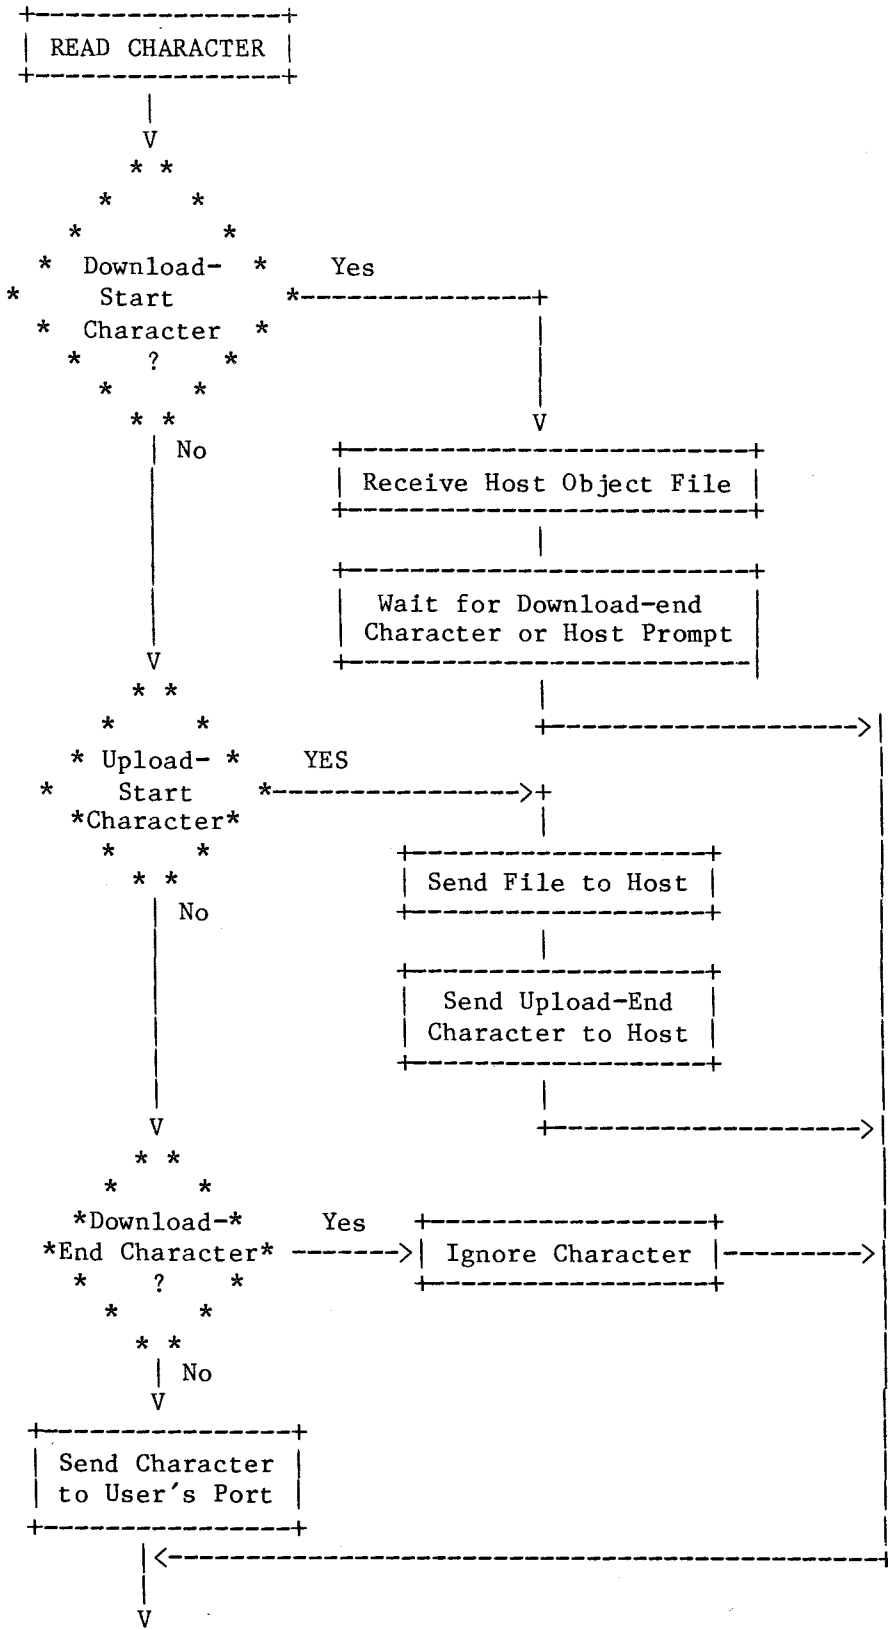

FIGURE 5-4. FLOWCHART OF DETAILS OF HOST'S SERVICE ROUTINE
- * Figure 5-4 illustrates the host system's service routine.